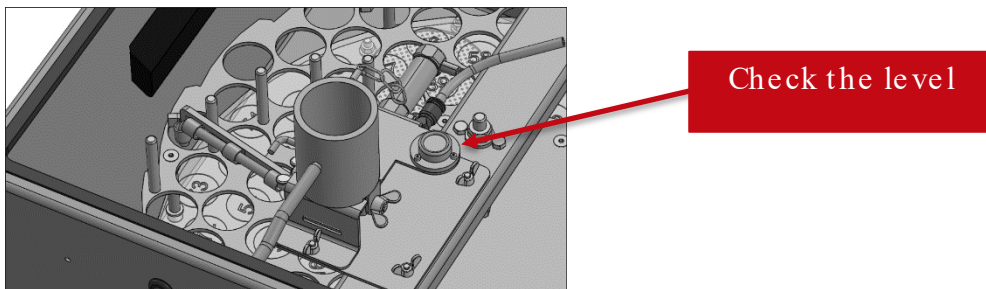

Figure 12. Level the Sampler
3. Loosen the fasteners and open the cover of the sampler. Level the sampler by unscrewing the feet in using the level bubble of the main bracket. See the figure 12